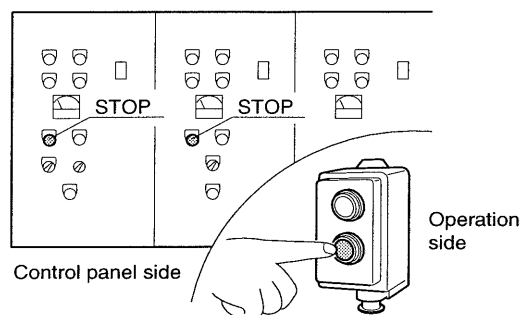

Fig. 9
- * **Check the position of power supply beforehand. (Fig. 9)**